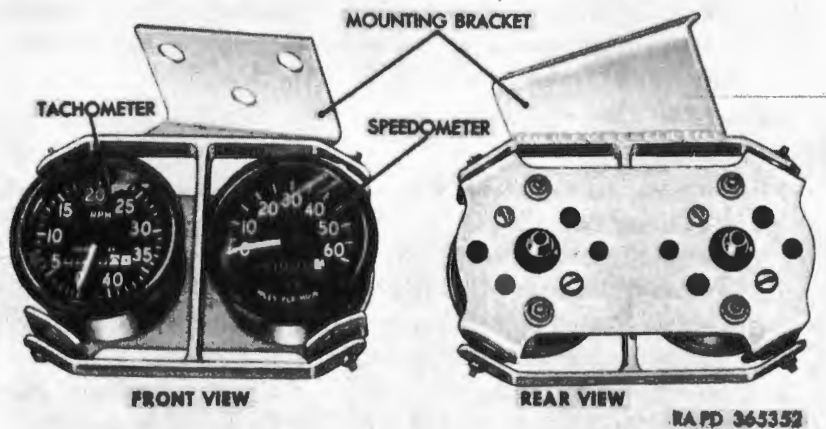

Figure 257. Speedometer and tachometer with mounting bracket—front and rear view.
- (1) *Removal.* Disconnect the flexible drive shaft from the speedometer or tachometer indicator (fig. 257). Remove the two hex nuts, flat washers, and lockwashers which secure the speedometer or tachometer indicator in the mounting bracket and remove indicator from bracket.
- (2) *Installation.* Position the speedometer or tachometer indicator in the mounting brackets (fig. 257) and secure
- (1) *Removal.* Disconnect the flexible drive shafts from the speedometer and tachometer indicators (fig. 257). Remove three hex-head bolts and lockwashers which secure the bracket to the hull and remove the bracket with indicators attached. Remove the speedometer and tachometer indicators from the mounting bracket as described in b(1) above.
- (2) *Installation.* Install speedometer and tachometer indicators (fig. 257) in the mounting bracket as described in b(2) above. Position mounting bracket with indicators